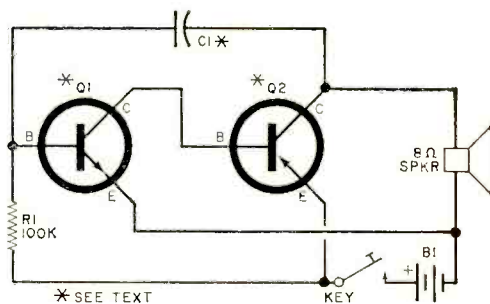

Fig. 1. Simple oscillator circuit with a key for coded practice has audio output for use by group.
**Reader's Circuit.** One of our good neighbors up north, reader Joseph Kolodziej (R.R. #3, Young St., Smithville, Ont., Canada), submitted the code practice oscillator circuit shown in Fig. 1. Essentially a complementary relaxation oscillator, the project requires a minimum of components and has a loudspeaker output, thus making it suitable for group practice. It can be assembled by the average experimenter in one or two evenings.